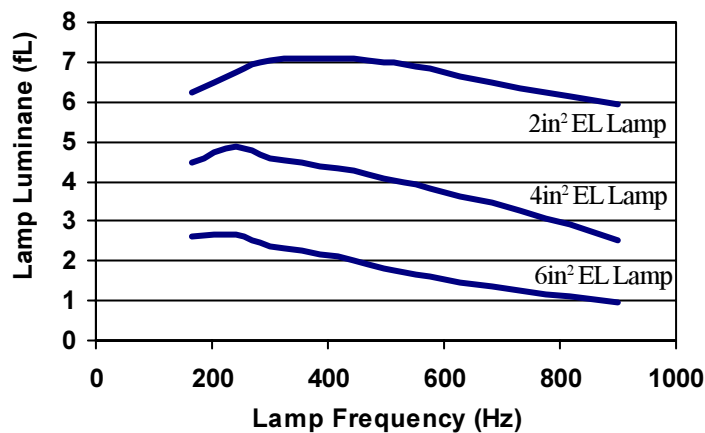

Figure 2: Typical Lamp Luminance vs. Lamp Frequency
The selection of the CLF value can also affect the brightness of the EL lamp because of its control of the lamp frequency (LF). Although input voltage and lamp size can change EL lamp frequency as well, LF mainly depends on the CLF value selected or the frequency of the input clock signal to CLF. The luminance of various sizes of Durel 3 Blue-green EL lamp driven by a D356B at  $V+ = 3.0V$  using the same inductor value is shown in Figure 2 with respect to lamp frequency.